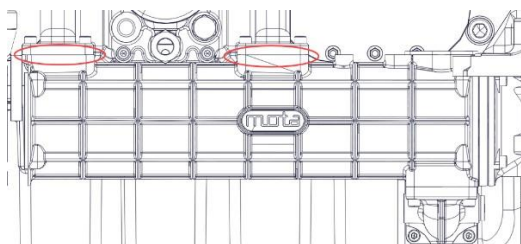

Figure 154-9.
6. Adjust the oil cooler to ensure 0 gap position naturally remains for the lower bracket. Wipe and clean surfaces so no residual oil/grease is present (Figure 154-9).